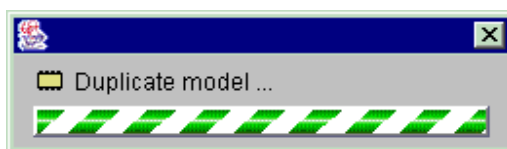

Figure 68 : Duplicate model bar graph
- ♦ A bar graph (Figure 68) indicates that the component is being duplicated; *Component_C* is copied with the *Component_C_copy* name in the relevant family.